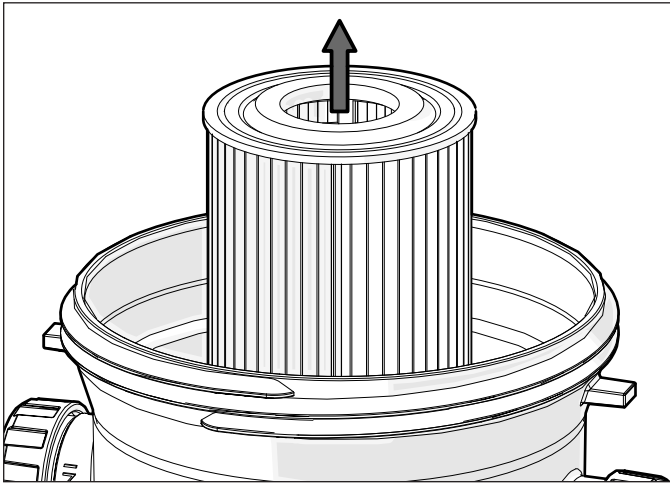

Figure 16. Removing Cartridge
6. Once lid is free of the body, lift lid and locking ring together and place in a clean location. You can now remove the filter cartridge (Figure 16).